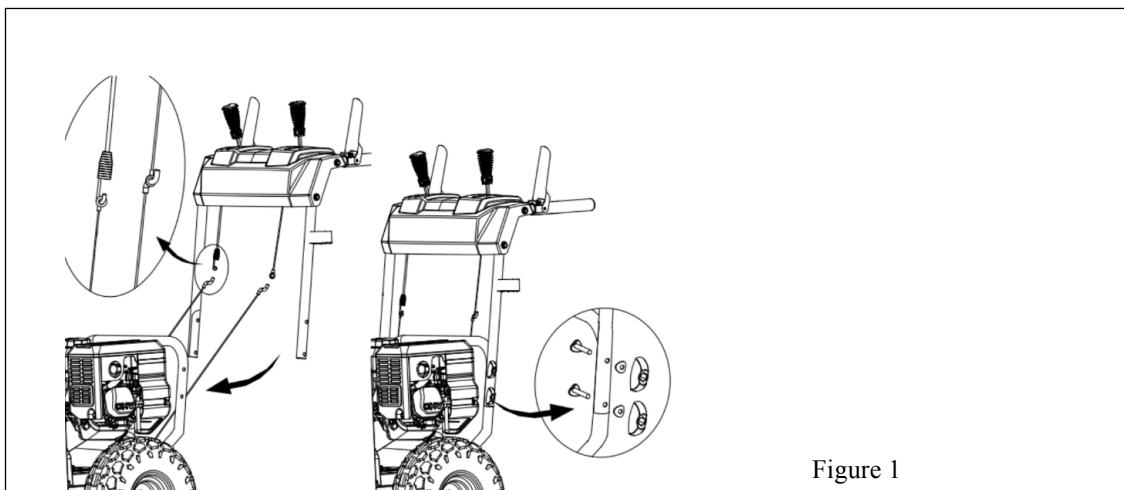

Figure 1
5. Verify that the connection for the Upper & Lower Drive/Auger Cables is accurate. (See Figure 1)